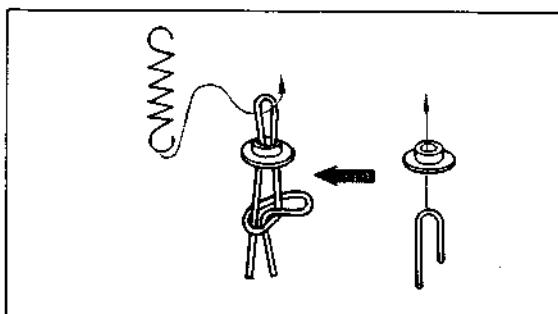
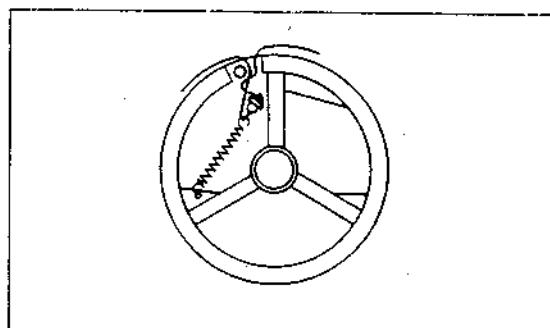

Fig. 2-9. Detail of dial cord finish
Fig. 2-10. End of dial cord stringing
5. Pass the doubled end of the cord through the eyelet (See Fig. 2-9), then hook it to the spring as shown in Fig. 2-10.
Make a knot in the cord end to keep it from slipping out of the eyelet. See Fig. 2-9.